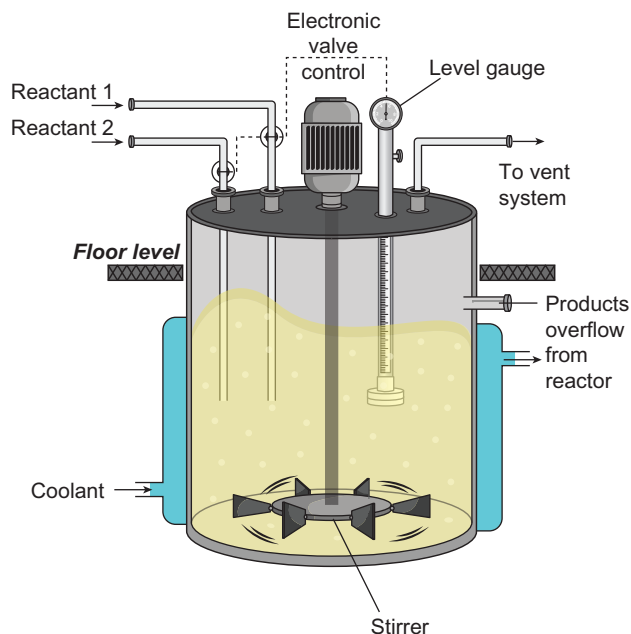

Figure 15.17 Stirred tank reactor.
- A **stirred tank reactor** (Figure 15.17) contains a mixer or agitator mounted to the tank. The shell, or jacket, of this type reactor can be heated or cooled, depending on the process and design.